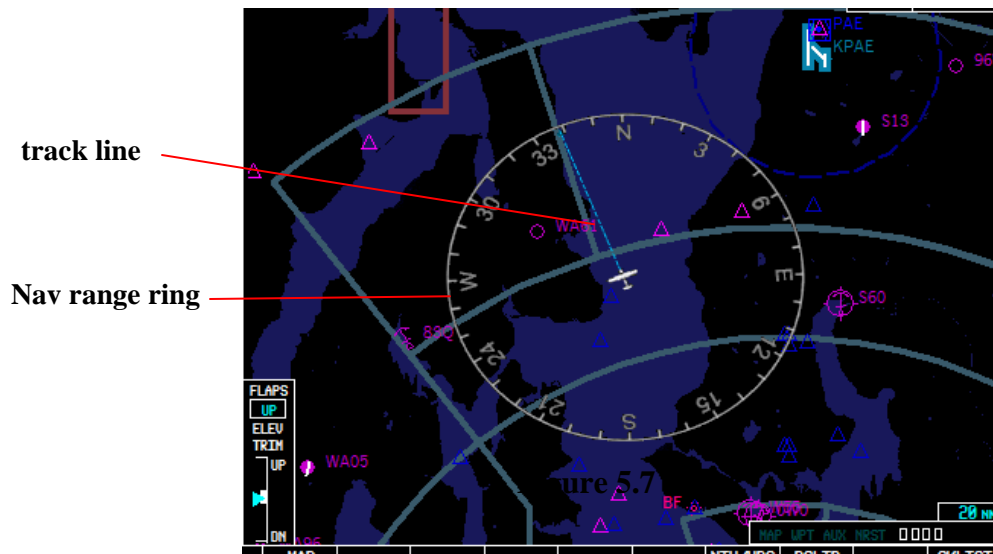

Figure 5.7
6. **Nav range ring** - used to turn ring on and off. The Nav range ring shows the aircraft ground track on a rotating compass ring. A straight light blue, dashed line extends from the nose of the aircraft to the compass ring to denote direction when in the North Up orientation (Figure 5.7). Off by default.